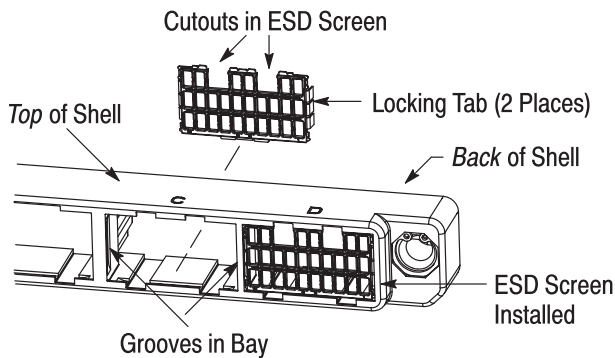

Figure 2
5. If applicable, install the ESD screens onto bays of the shell for the HM-Zd connectors. From the back of the shell, align the cutouts of the screen with the top of the shell, and slide the screen into the bay until the locking tabs “snap” into the grooves. See Figure 2.